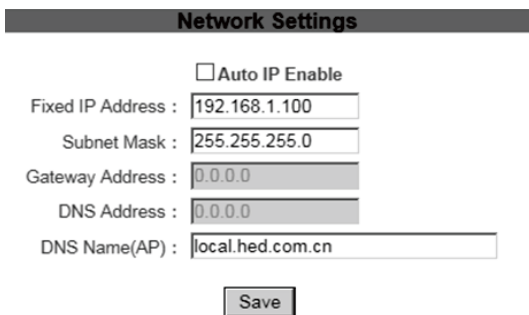

Figure 25
4. In "Network Settings" column, to set up IP automatically (Mark check before the "Auto IP Enable") or by set up IP, "Fixed IP Address" enter IP address; "Subnet Mask" enter subnet mask; the rest category remain default, click "Save" button to save the setting (Figure 25).